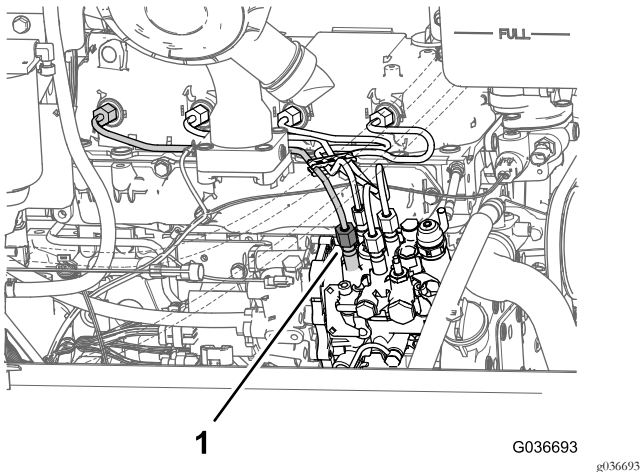

Figure 47
1. Loosen the tube nut for the cylinder #1 fuel-injector at the injection pump (Figure 47).